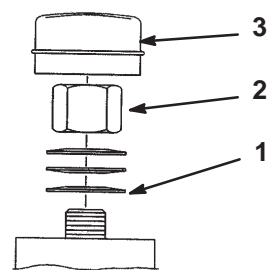

Figure 42
2. Remove dust cap from castor and tighten lock nut (Fig. 42).
3. Tighten until spring washers are flat and then back off a 1/4 turn to properly set the pre-load on the bearings (Fig. 42).
Important Make sure spring washers are installed correctly as shown in figure 42.